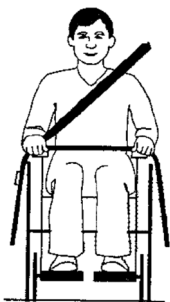

Fig. 4
2. Restraint belts must not be placed over wheelchair components such as armrests or wheels, so they cannot be held away from the body (Fig. 4).